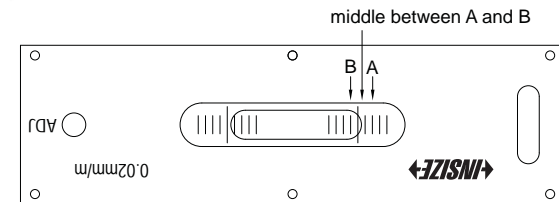

Fig.5
- e) If $A-B \leq 1$, the level can be used. If $A-B > 1$ (in the above example, $A-B=3$), rotate the adjust screw lightly until the bubble moves to the middle between A and B (Fig.5).